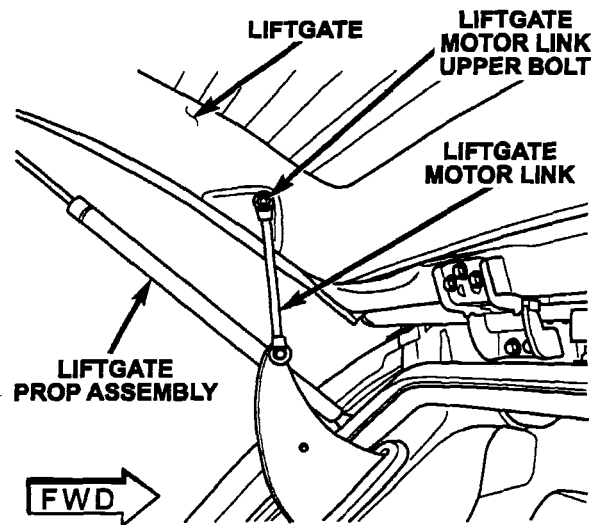

Figure 2
5. Remove the power liftgate motor link upper bolt and disengage the motor link from the liftgate (Figure 2).